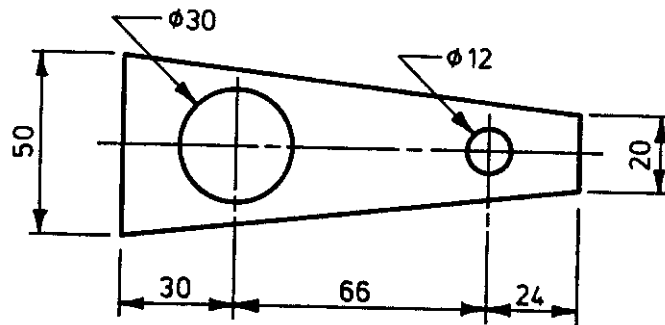

FIG. 2
- (b) The gasket shown in Figure 2 is to be made from a piece of aluminium sheet,  $120 \times 50 \times 1$ .